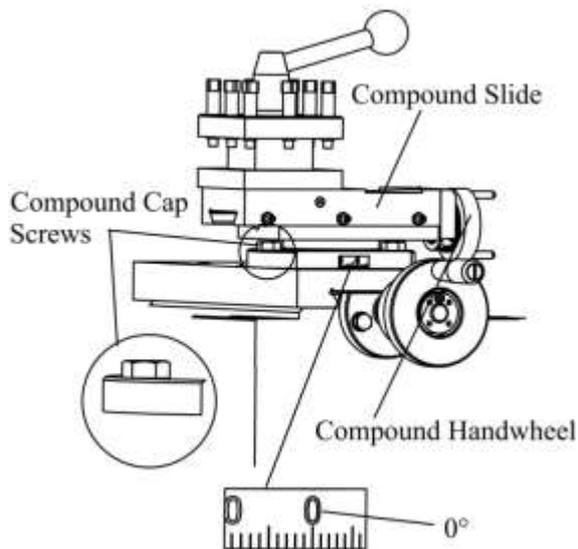

Figure 14 .Loosening the compound Cap screws.
1. Loosen the compound cap screws shown in **Figure 14** to allow it to be rotated.